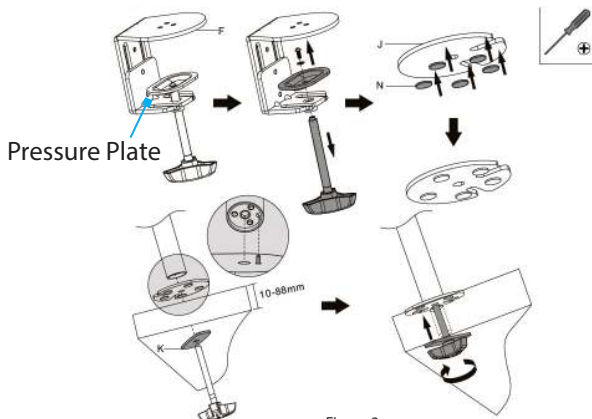

Figure 3
1. Remove the two **Screws**, located on the back of the **Desk Clamp (F)**, using the **4 mm Hex Key (P)**.
2. Remove the **Screw** that fastens **Pressure Plate** to the **Hand Screw**. (Figure 3)
3. Remove the **Pressure Plate** and **Washer**, and remove the **Hand Screw** from the **Desk Clamp (F)**.
4. Slide the **Grommet Clamp Plate (K)** over the end of the **Hand Screw**, completing the **Grommet Hand Screw**.
5. Affix the **Rubber Pads (N)(x5)** to the side of the **Grommet Base Plate (J)** that does not feature the **Peg**.
6. Insert the **Peg**, located on the **Grommet Base Plate (J)**, into the non-threaded hole, located in the base of the **Pole (G)** and push to attach the two pieces, completing the **Grommet Pole Assembly**.